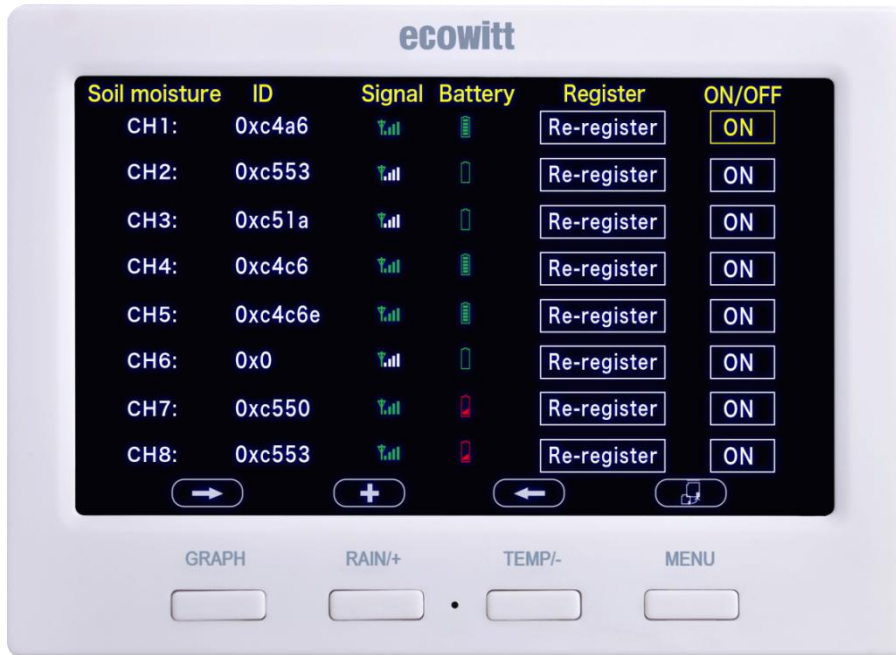

Figure 39: Register WH51L on HP3500 Display Console
- Register new sensor ID on Figure 39.